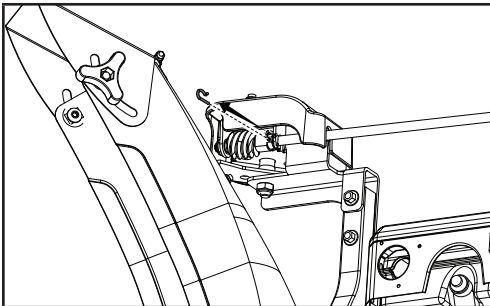

Figure 33
2. Pull out the R pin (Fig. 33).